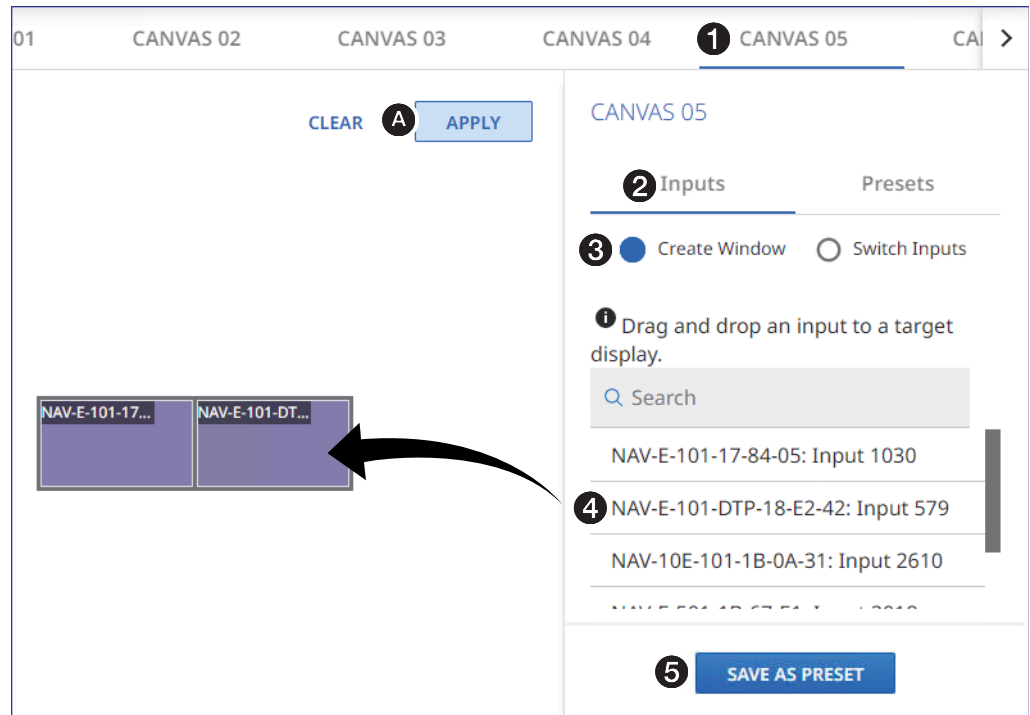

Figure 67. Creating a Preset
2. If necessary, click **WINDOWALL > Presets**. The Presets page opens (see figure 67 on page 68).
3. Click the appropriate **Canvas** tab to select the canvas for which to create a preset (see figure 67, 1).